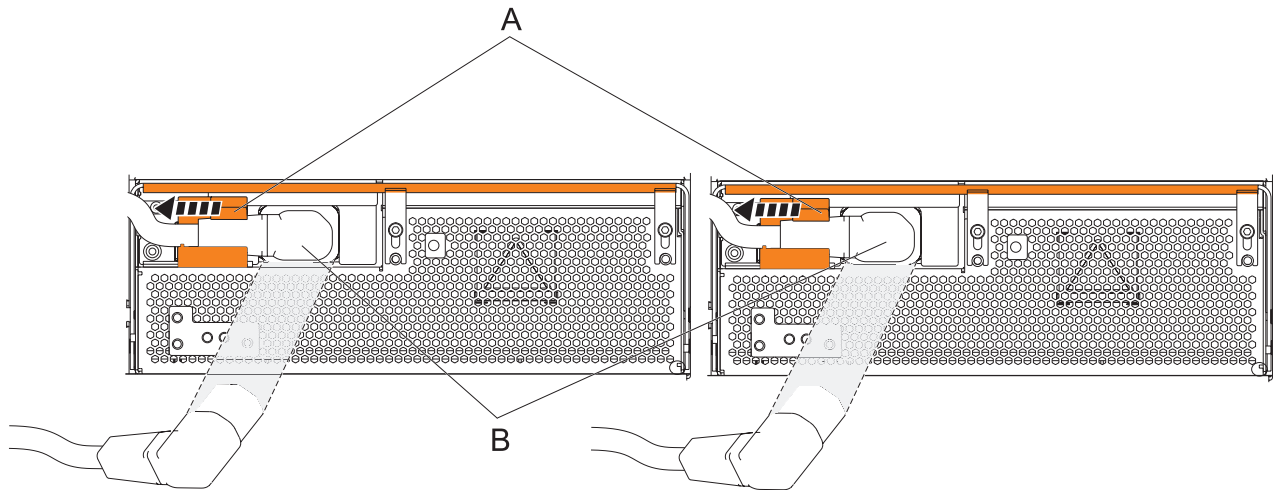

Figure 97. Disconnecting the OCA power cords
- a. Slide the power cord holders **(A)** to the left, located on the front of both the OCAs. See Figure 97 on page 130.